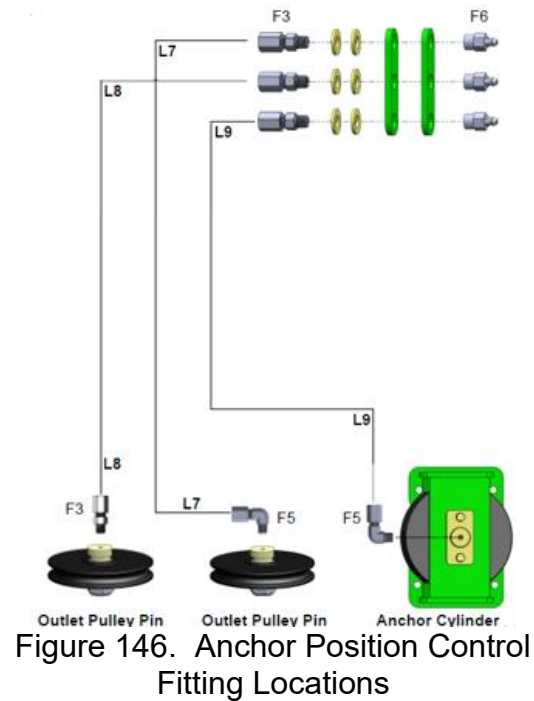

Figure 147. Cabinet Grease Fittings
Open the access panel to the anchor position control. Locate three (3) grease fittings at the tensioner and pulley on the cylinder. See Figure 147.